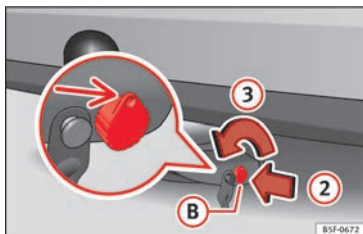

Fig. 234 Releasing the lock
- Insert key **(B)** into the lock in the direction of arrow **(2)** » Fig. 234.